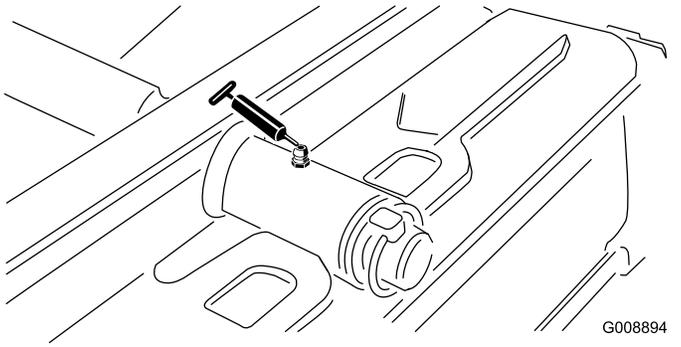

Figure 28
- Rear cutting-unit pivot (Figure 28)